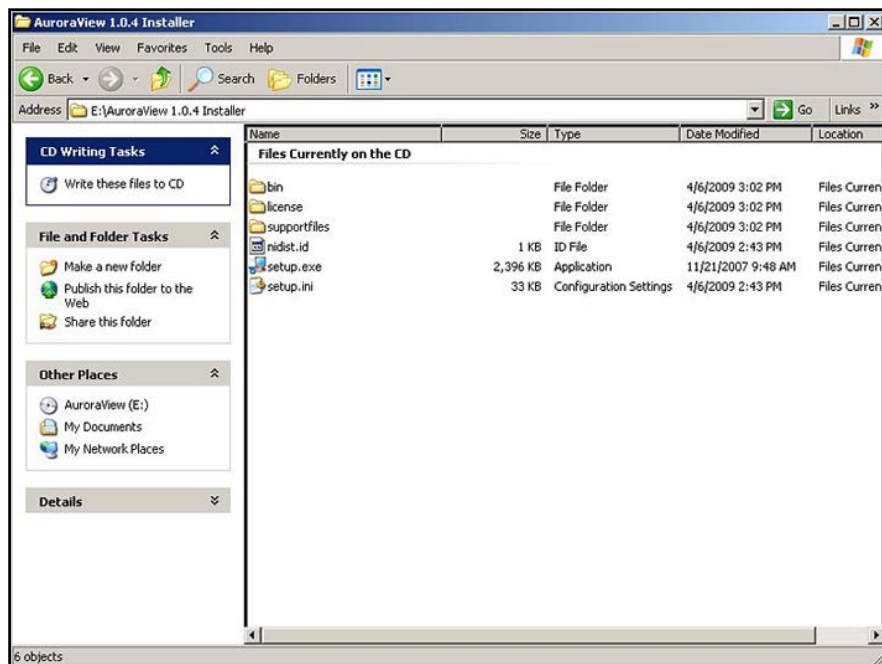

Figure 21: AuroraView Installer
3. Browse to the file named “*setup.exe*” in the root directory of AuroraView (see *Figure 21* below). Double-click the file to start the installation.